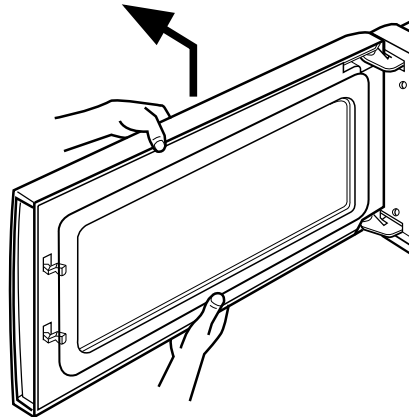

Figure 16
G. REMOVING DOOR (Figure 16)
- (1) Remove the vent grille by two screws securing it to the outcase loosening.
- (2) Lift up and draw the door.